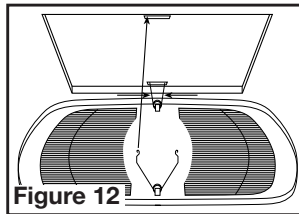

Figure 12
- Install the grill by squeezing the two ends of the springs together and installing them up into the slots on the fan's housing. Push the grill up into position (Figure 12).